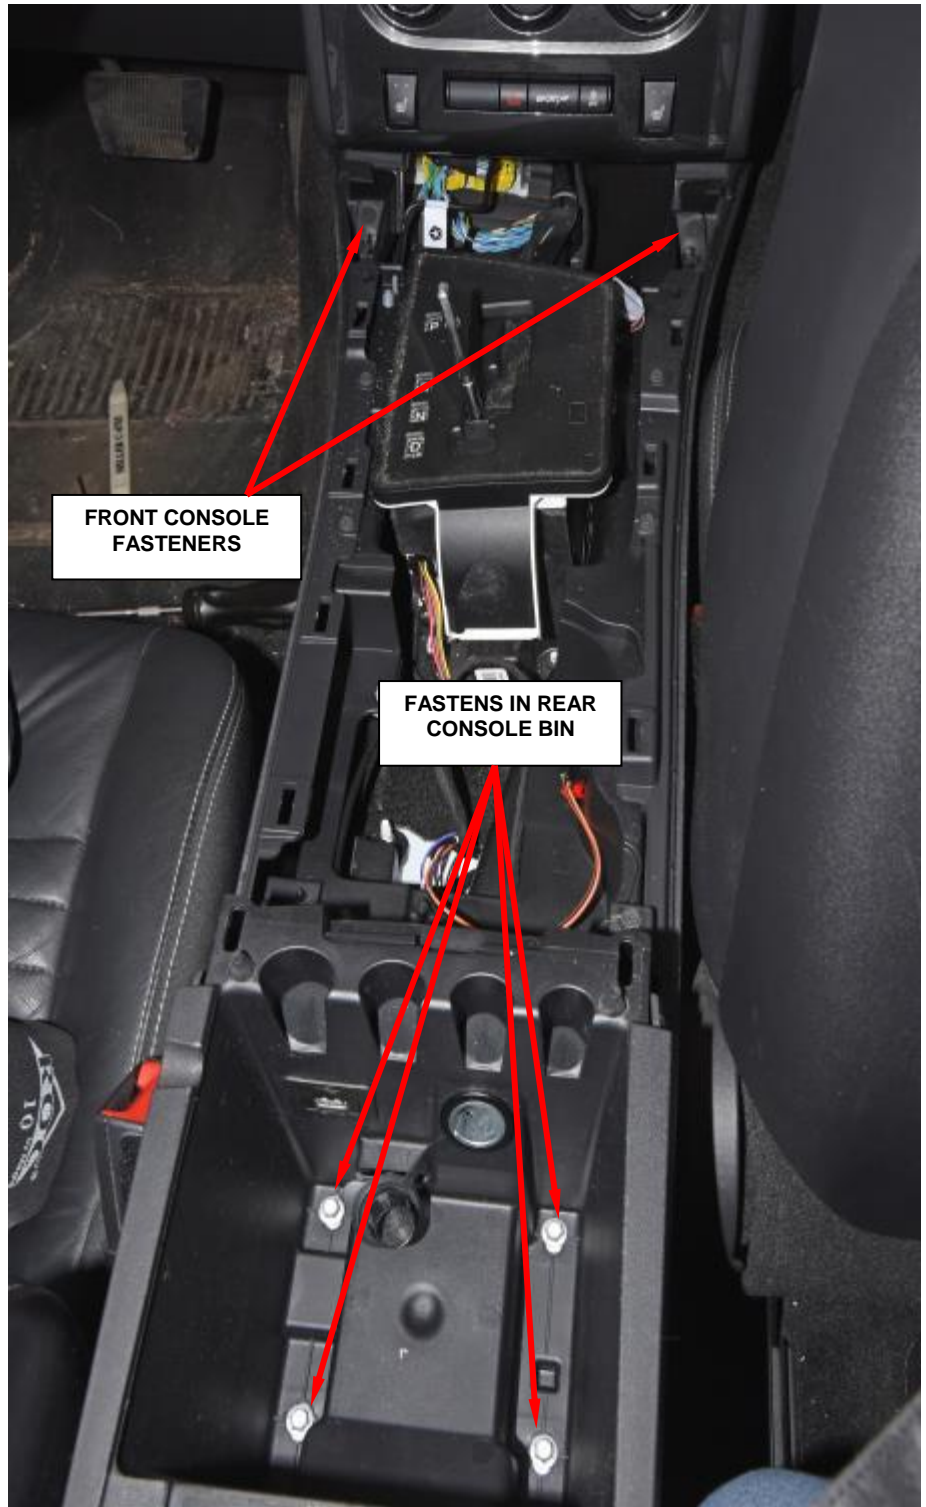

Figure 31 – Floor Console
13. Remove the four fasteners from the rear bin that secure the console to the floor panel transmission tunnel (Figure 31).
14. Remove the two fasteners that secure the front of the console to the instrument panel (Figure 31).